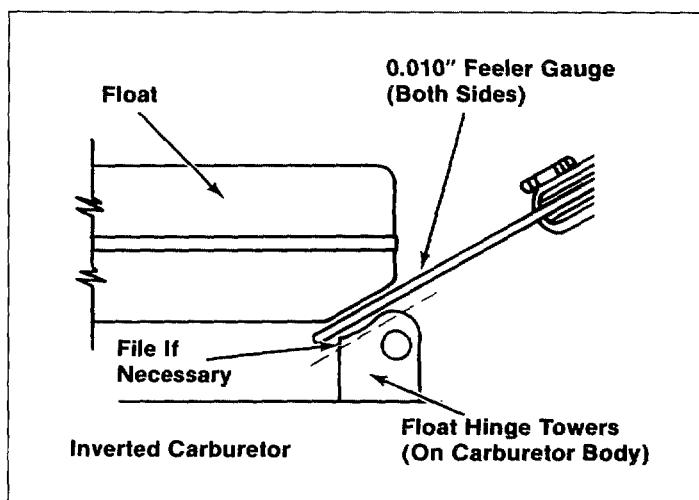

Figure 15. Checking Float Clearance
5. Check float to float hinge tower clearance: Invert the carburetor so the float tab rests on the fuel inlet needle. Insert a .010" feeler gauge between float and float hinge towers. If the feeler gauge cannot be inserted, or there is interference between the float and towers, file the towers to obtain the proper clearance. Refer to Figure 15.